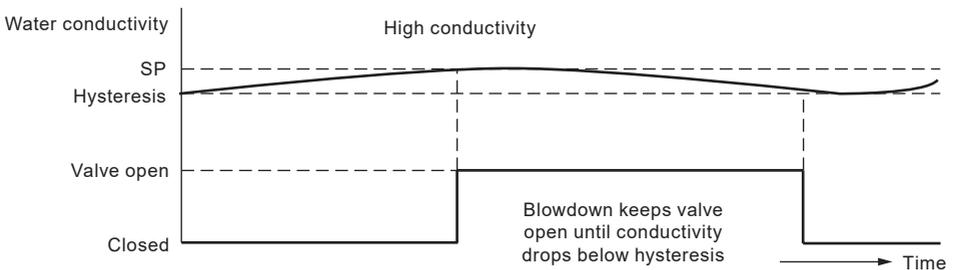

Fig. 16 ON/OFF control without purge
Used when the probe is mounted in the boiler. The probe is able to constantly monitor the conductivity from the probe tip to the boiler shell. When the TDS/conductivity value exceeds the set-point (SP) the valve will open and will remain open until the TDS/conductivity value drops below the hysteresis. See Figure 16.